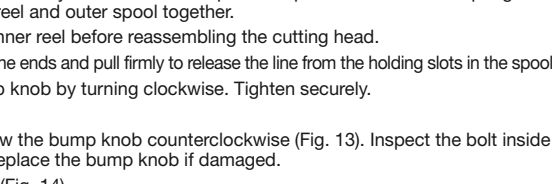

Fig. 20
13. Insert or slide the ends of the line through or into the eyelets in the outer spool and place inner reel with spring inside the outer spool (Fig. 20). Push the inner reel and outer spool together.
5. Insert or slide the ends of the line through or into the eyelets in the outer spool (Fig. 20).